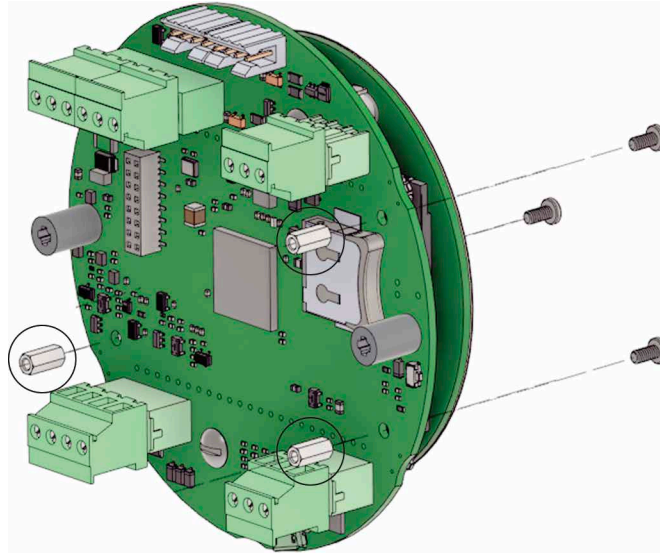

Figure A.2—Standoff installation; standoff locations are identified by three circles
5. Install the three standoffs on the main board, securing each with a screw on the back side of the main board (Figure A.2, page A-2).